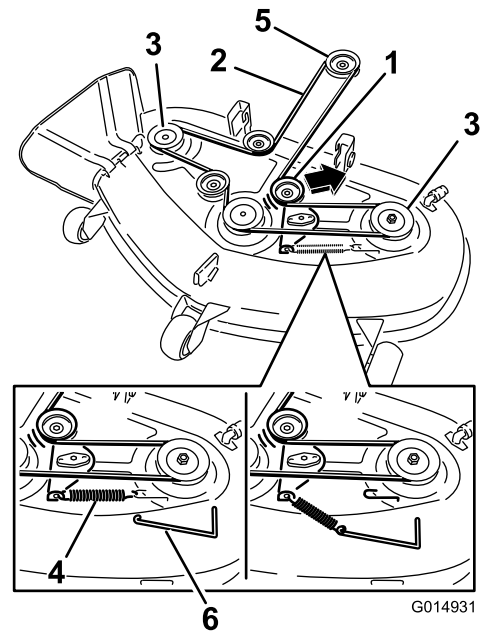

Figure 58
4. Using a spring removal tool, (Toro part no. 92-5771), remove the idler spring from the deck hook to remove tension on the idler pulley and roll the belt off of the pulleys (Figure 58).
5. Route the new belt around the engine pulley and mower pulleys (Figure 58).
6. Using a spring removal tool, (Toro part no. 92-5771), install the idler spring over the deck hook and placing tension on the idler pulley and mower belt (Figure 58).